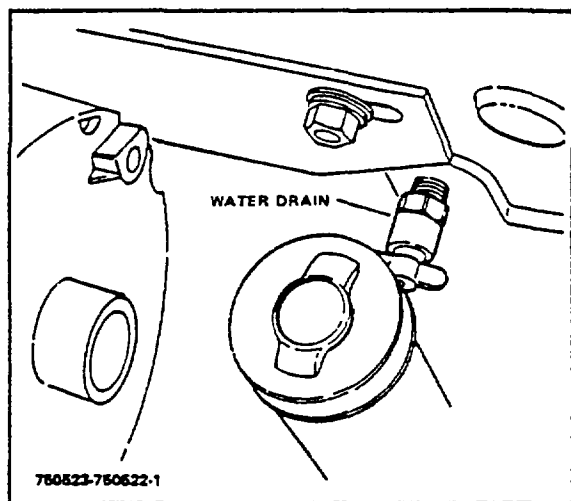

Figure 2-2. Water Drain NOTE
2. Remove the radiator cap, open the drain cocks located underneath the alternator (Figure 2-2) and in radiator outlet elbow to drain the cooling system.
1. Open water drain (Figure 2-2).